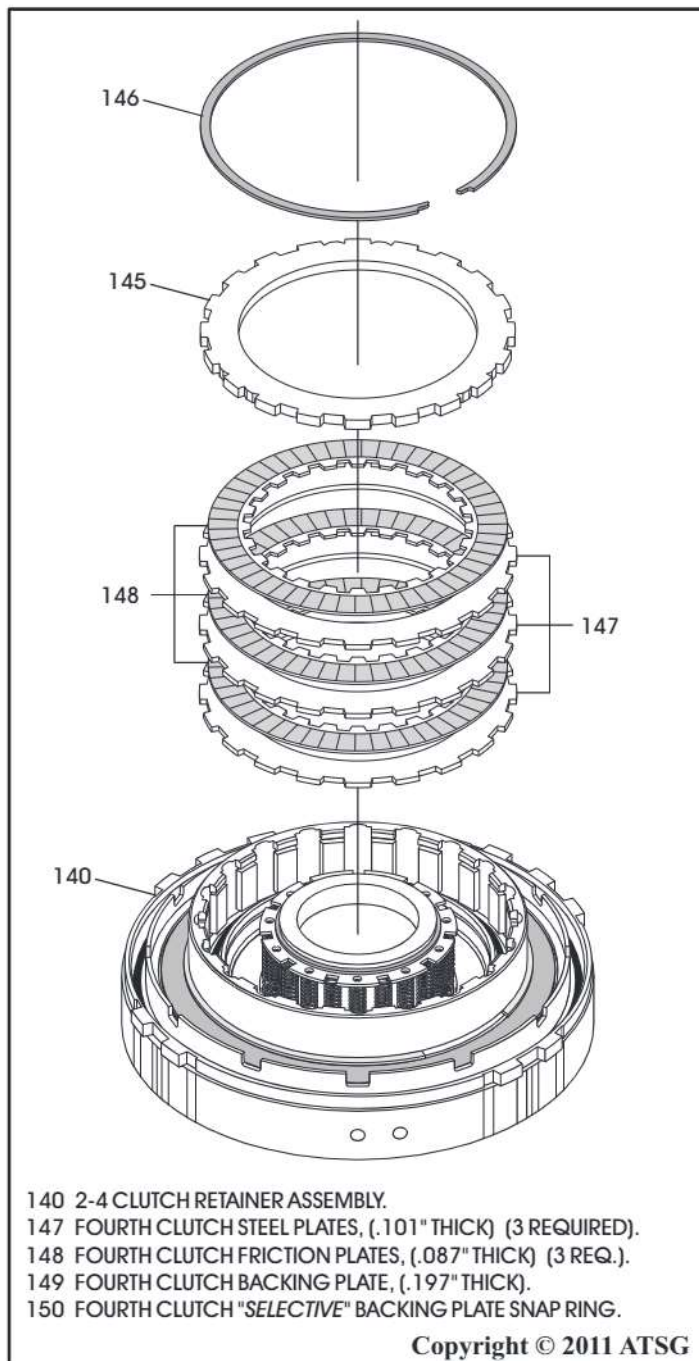

Figure 83
14. Install the 4th clutch plates beginning with a steel plate and alternating with friction plates until you have installed three of each, as shown in Figure 83.
15. Install the 4th clutch backing plate, as shown in Figure 83.
16. Install the 4th clutch backing plate **selective** snap ring, as shown in Figure 83, and ensure that it is fully seated.